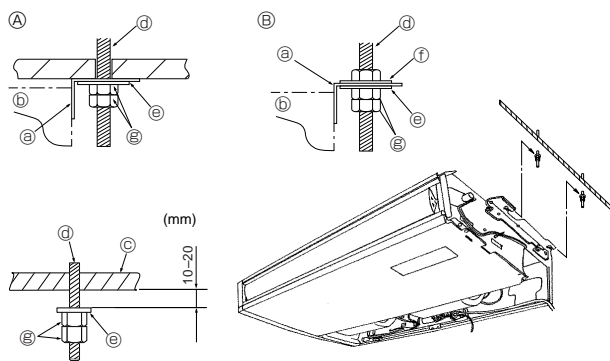

Fig. 3-5
- ② Forcing open the intake grille or opening it to an angle of more than 120° may damage the hinges.
3.3. Installing the indoor unit (Fig. 3-5)